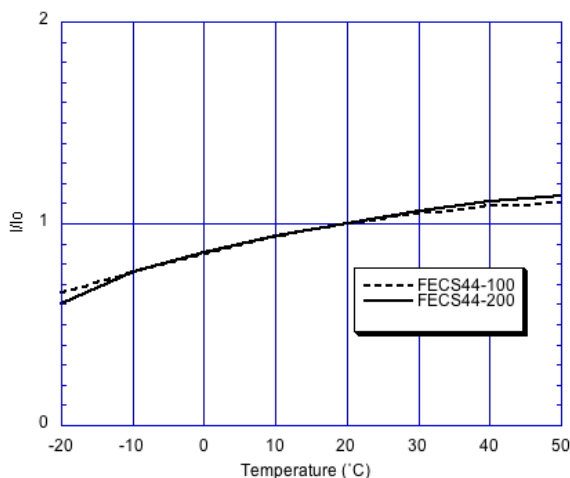

Fig. 7 - Temperature dependency (I₀=sensor output current at 20°C)
Figure 7 shows the sensitivity change with temperature measured using the recommended basic measuring circuit. The Y-axis shows the ratio of output current in 100ppm of NH₃ at various temperatures (I) to the output current in 100ppm of NH₃ at 20°C. The sensitivity gradually decreases as the temperature decreases, and the sensitivity slightly increases as the temperature increases. Therefore, the temperature dependency of ammonia sensitivity of FECS44-100/-200 can be compensated by a NTC thermistor.